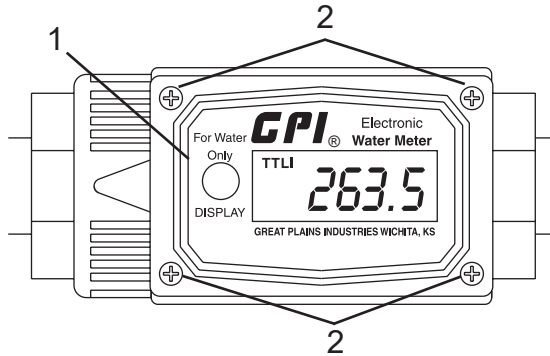

Figure 172
1. Remove four screws (Figure 172, Item 2) from the face of the meter and remove the faceplate (Figure 172, Item 1) from the meter body.